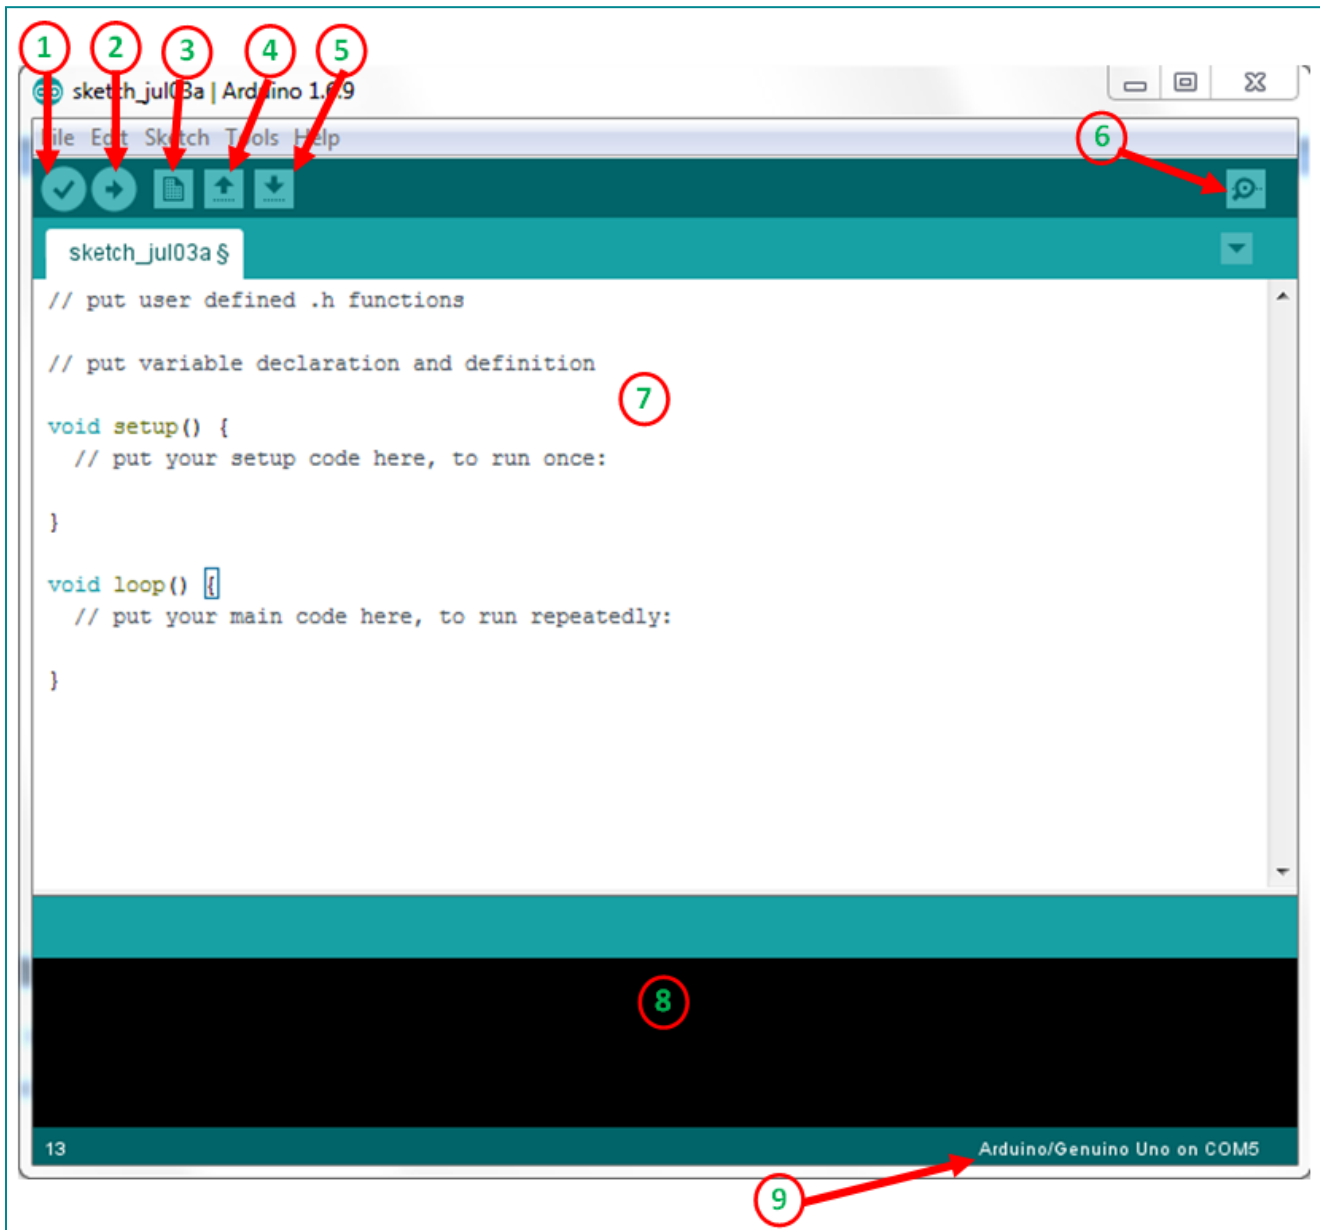
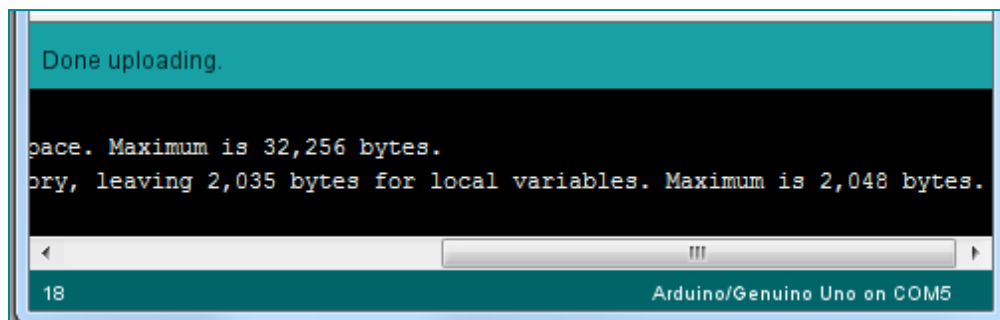

Figure 2-6. Arduino software overview.
Figure 2-9. Message indicating that the code was successfully uploaded to the Arduino.
This section will familiarize you with the Arduino IDE software. When you run the Arduino software, the window will look like Figure 2-6.
The elements highlighted in Figure 2-6 correspond to the following:
When you are ready to upload the code, click the **Upload** button (#2 in Figure 2-6) and allow the IDE some time to compile and upload your code. When the code has uploaded correctly, you should see something like the message in Figure 2-9 in your console window.
8. Open the Serial Monitor indicated by #6 in Figure 2-6, and make sure that baud rate matches the one highlighted in yellow in the code below.